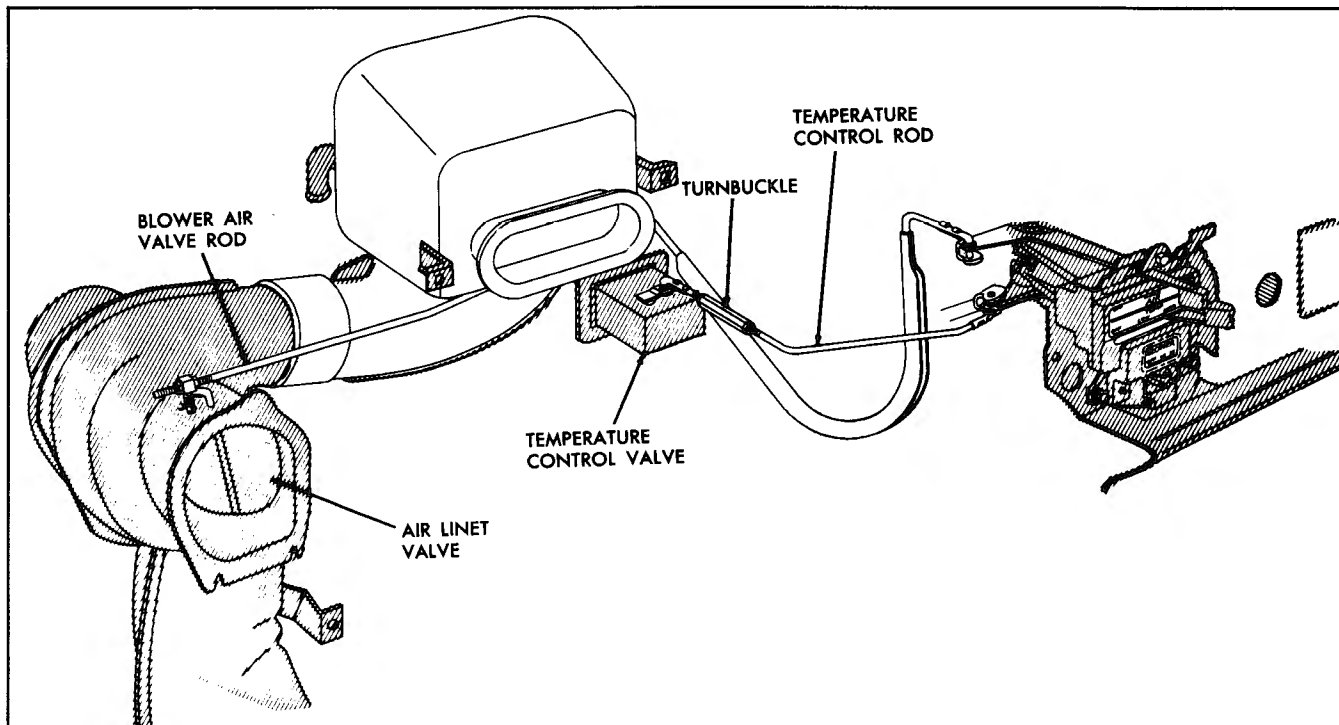

Fig. 14-18 Heater and Defroster Controls
1. Loosen trunion lock nuts at heater air inlet valve under left fender and on defroster valve on right side of defroster (Figs. 14-18 and 14-19).
1. Loosen lock nuts at both ends of turnbuckle on temperature control rod (Fig. 14-18). (Short rod to temperature control valve has right hand thread, long rod to control lever has left hand thread.)